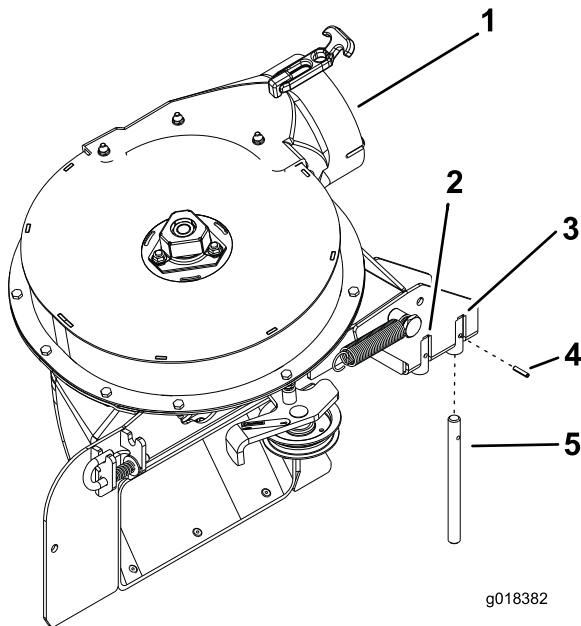

Figure 34
Verify that the pivot pin is secured on the blower assembly in the correct location (Figure 34).
- If you have a 48-inch or 52-inch mower deck, install the pivot pin in the front hole (Figure 34).
- If you have a 60-inch mower deck, install the pivot pin in the rear hole (Figure 34).